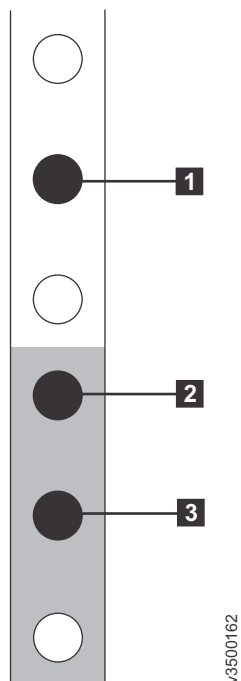

Figure 46. Hole locations in the front of the rack
4. Working at the front of the rack cabinet, identify the two standard rack units (2U) of space in the rack into which you want to install the support rails. Figure 46 shows two rack units with the front mounting holes identified.